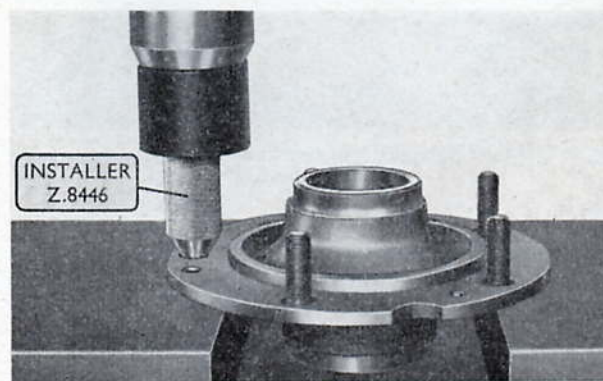

Fig. K.11. Peening the shoulder of a new hub bolt
- (d) Invert the installer andpeen the bolt shoulder down into the bolt hole countersink (Fig. K.11).